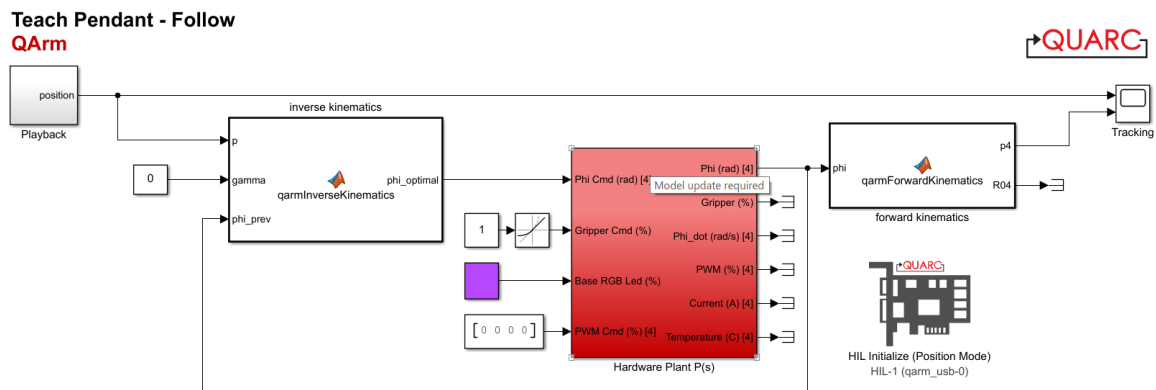

Figure 3: Simulink model *TeachPendant_Follow.slx*
1. Open the Simulink model TeachPendant_Follow.slx (Figure 3). You will use this model to command the manipulator to follow the waypoints that were learned in the previous section.